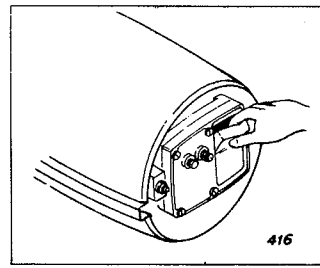

Figure 4. Removing Intake Air Filter
1. Check and clean the intake air filter often. The filter needs cleaning if you can see a film of dust on it. It will need cleaning more often if the heater is operated in dusty air. See Figure 4.
3. Adjust the gap by bending the outside electrode where shown in Figure 4. If you do not install the plug immediately, protect it from damage until it is reinstalled.